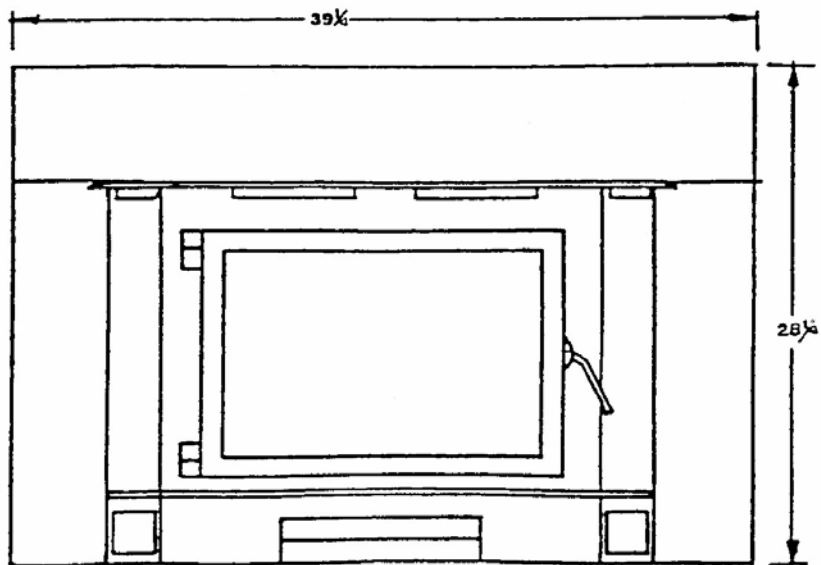

Fig. 2
6. Three face plates are available to seal the fireplace opening to cover a maximum of 38" width by 27" height (Fig. 2).